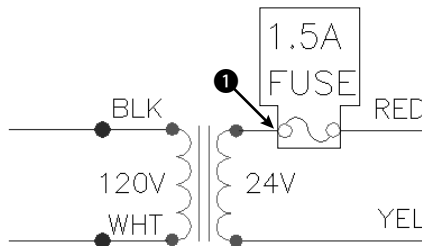

Figure 18-4: A portion of an electrical schematic.
2. Save the file as `ab18-01.dwg` in your `AutoCAD Bible` folder. This is a small portion of an electrical schematic drawing, as shown in Figure 18-4. OSNAP should be on. Set running object snaps for endpoint, quadrant, and intersection.
6. Select the boxed objects shown in Figure 18-4 (the two lines of text, the two circles, and the two arcs). Press Enter to end selection and return to the dialog box. Under the Select Objects button, the dialog box displays `6 objects selected`.
8. In the drawing, use the Quadrant object snap to pick **1** in Figure 18-4.